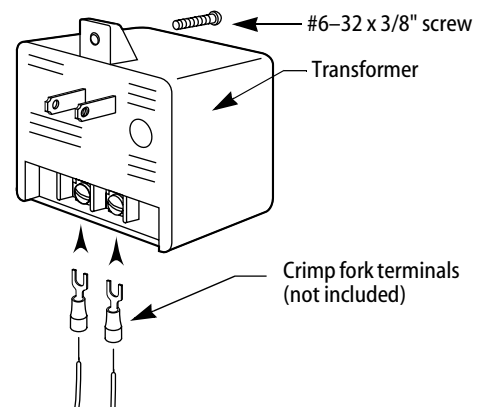

Figure 7—Connecting wires to the transformer
- 1 Strip 1/8" of insulation from the power supply wires and crimp on the fork terminals as shown in Figure 7.